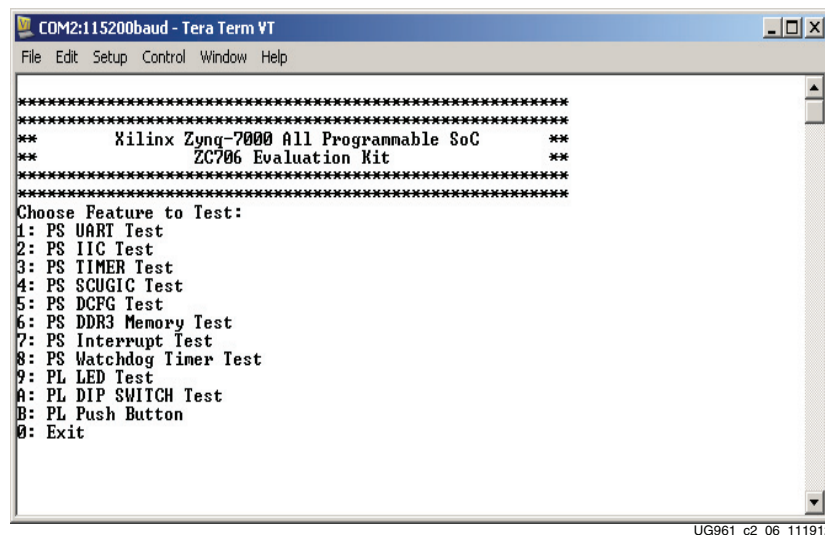

Figure 2-6: The ZC706 BIST Menu
3. Run the script file in C:\zc706\_bist\ready\_for\_download\zc706\_bist.bat (see Figure 2-6).